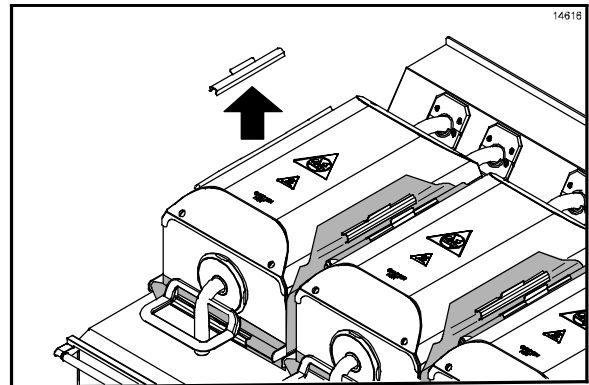

Figure 43
12. Remove the release sheet locking clips, the bars, and the upper and lower release sheets. Wash and rinse the clips and bars in the 3-compartment sink. If necessary, soak them in a hot solution of **SolidSense APSC** to remove carbon accumulation. (See Figure 43.)